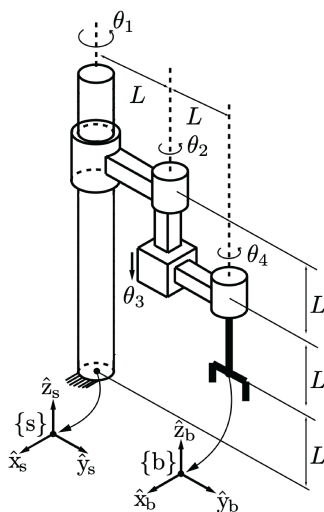

Figure 2: A four degree of freedom manipulator
- (a) Figure 2 shows a 4 degrees of freedom manipulator with three revolute joints and one prismatic joint (joint 3); RRPR: